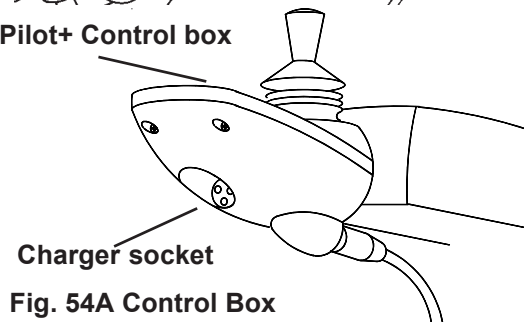
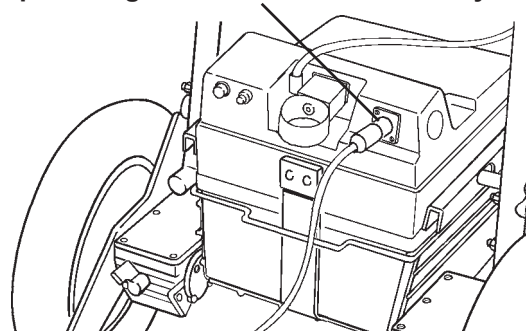

Fig. 54A Control Box
Fig. 54B
- 1 The wheelchair can be charged via one of two charging sockets. The charger socket most convenient and often used is located on the front of the Pilot/ Pilot+ Control Box (Fig. 54A). The other charger socket is located on the rear of the battery boxes (Fig. 54B). The charger socket on the battery box is useful should you require to charge the batteries independently from the chair, to do this remove the batteries and charge in a more convenient location making sure that the two batteries are connected together.